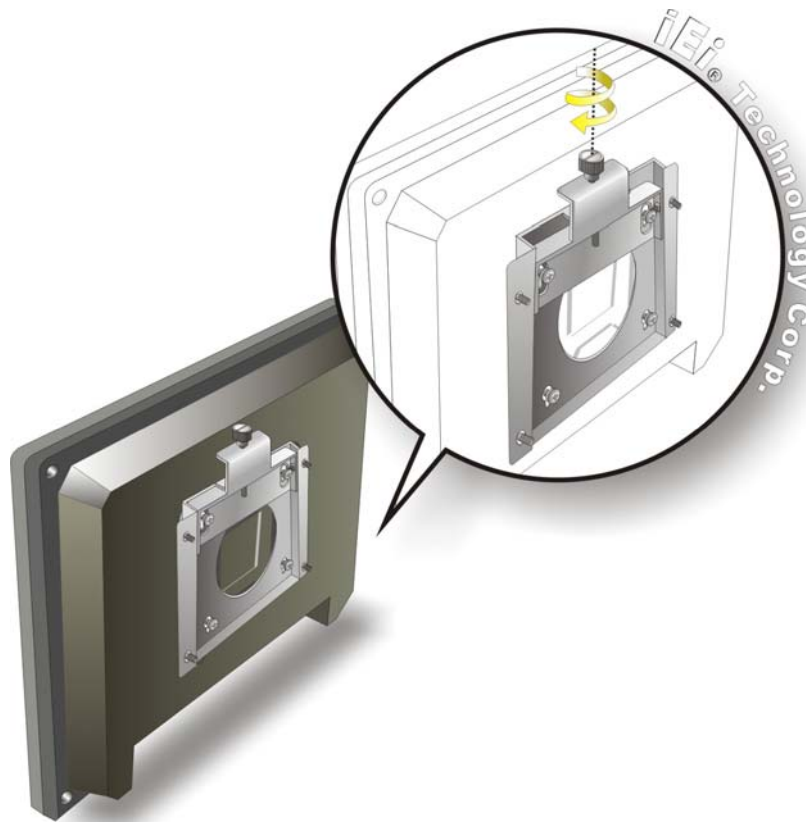

Figure 4-6: Secure the Panel PC
- Step 9:** Secure the panel PC by fastening the retention screw of the wall-mounting bracket. (Figure 4-6).